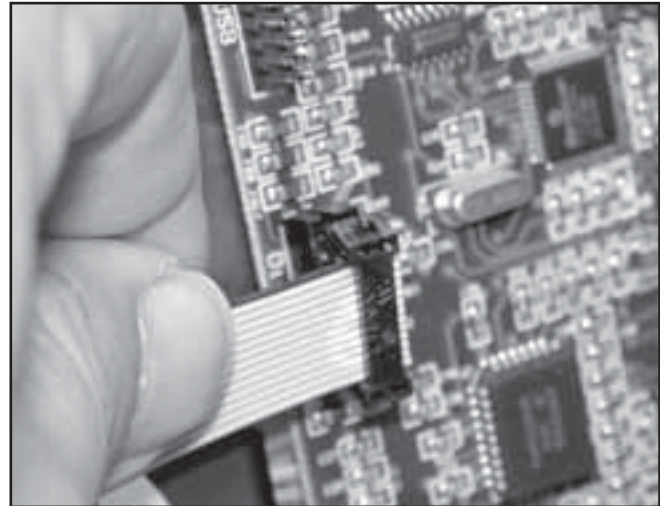

FIGURE 5.29
4. Turn unit Off. Remove Touch Screen Ribbon Cable from "Display" on Motor Control Board. See Figure 5.29. Turn unit On.
5. Turn unit Off. Remove Touch Screen Ribbon Cable from "Display" on Motor Control Board. See Figure 5.29. Turn unit On.